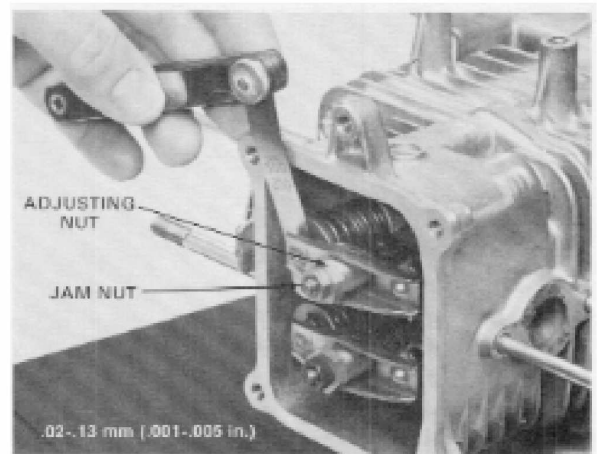

Figure 4-56
9. Adjust the valve clearance to .02 - .13 mm (.001 - .005 in.). See Fig. 4-56.